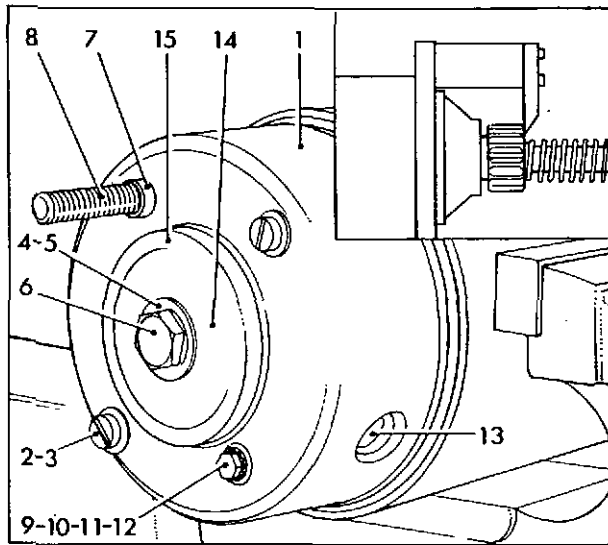

Fig. 27 Replacing commutator end shield
Assemble the end shield (1) fig. 27 onto the yoke, ensuring that it is correctly located and the brush leads are not trapped.
Check the pinion to flange clearance, using gauge tool No. 5693-222, by holding the gauge firmly against the flange as shown in inset on fig. 27. With the pinion loaded slightly inwards the arm of the gauge should just clear the face of the pinion. To adjust this clearance add or subtract shims as necessary between the recoil housing and the end shield boss. Shims of varying thickness are available. Assemble shims (4) thrust washer (5) and bolt (6) and tighten the bolt to a torque value of 25 to 30 lbf.ft (34.0 to 40.7 Nm) while holding the pinion with tool No. 6244-39. Add or subtract shims as necessary to obtain a clearance of 0.004 to 0.012 in (0.1 to 0.3 mm) between thrust washer and the shims.